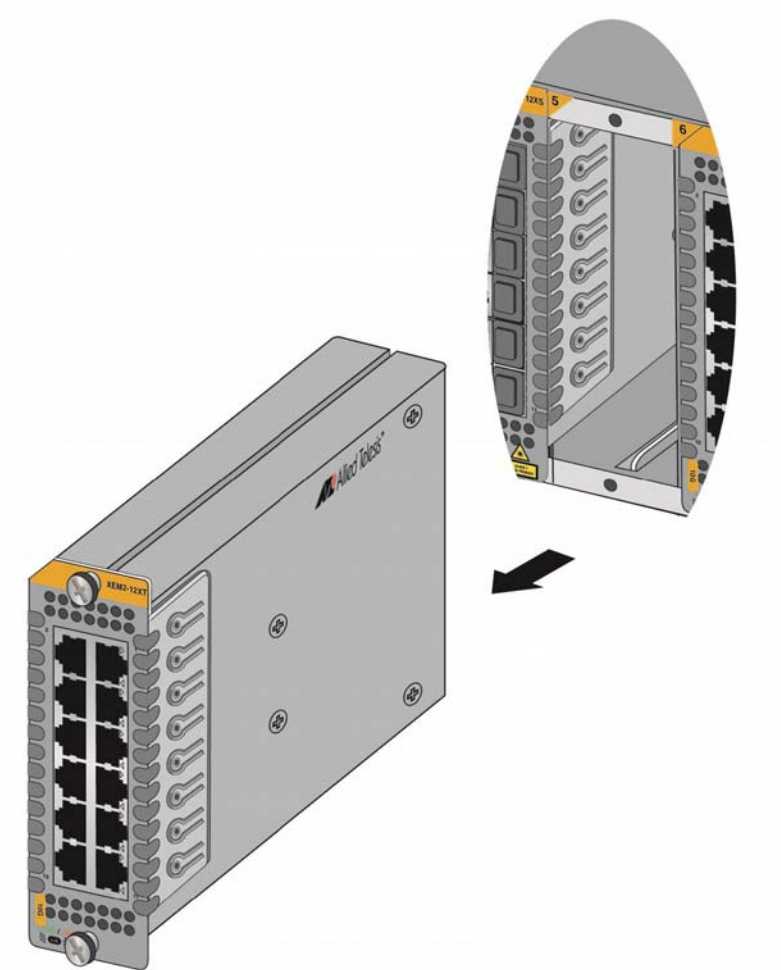

Figure 109. Sliding an Ethernet Line Card from the Chassis
6. Carefully slide the card from the chassis. Refer to Figure 109 on page 148.